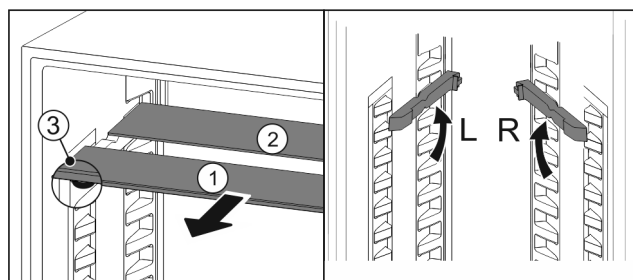

Fig. 162
- ▶ Pull the glass panels out *Fig. 162 (1)* from the front, one at a time.
- ▶ The glass panel *Fig. 162 (1)* and trim strip are at the front.
- ▶ The stops *Fig. 162 (3)* point down.